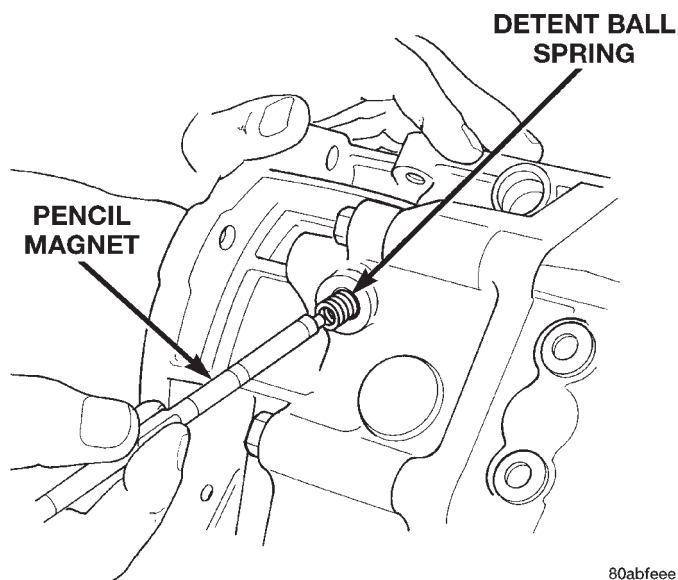

Fig. 45 Install Detent Spring
(17) Install detent spring in case (Fig. 45).